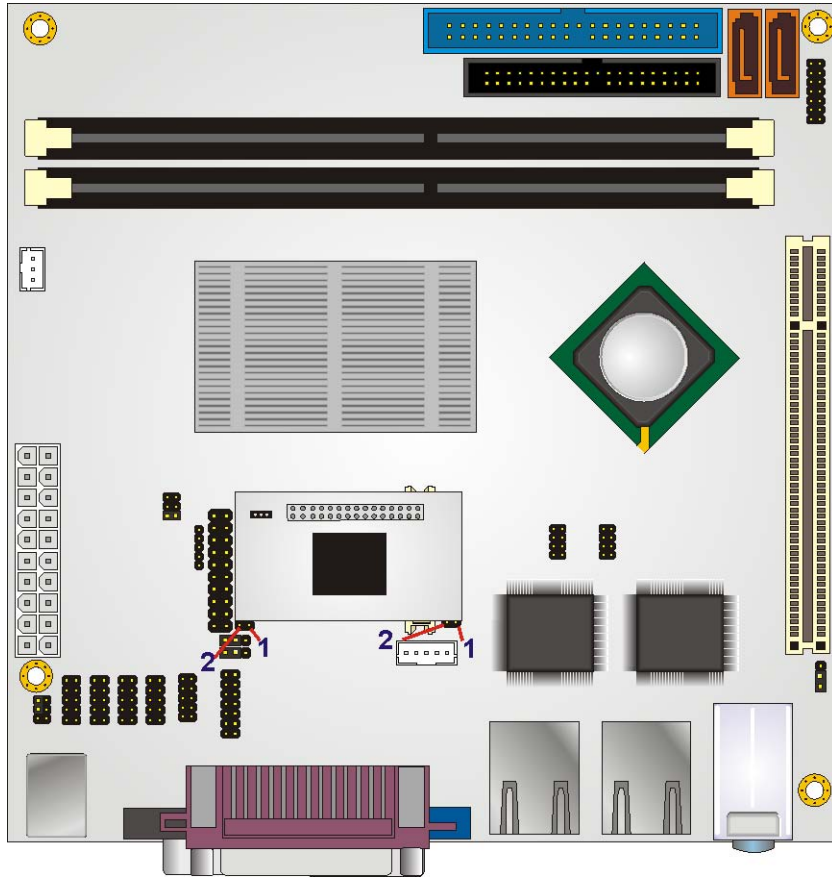

Figure 5-14: 24-bit LVDS 3907720 Connectivity
- Step 3:** Install the 3907720 onto the connectors. Pin 1 and pin 2 on both the J6 and J8 connector should be visible. See Figure 5-14.